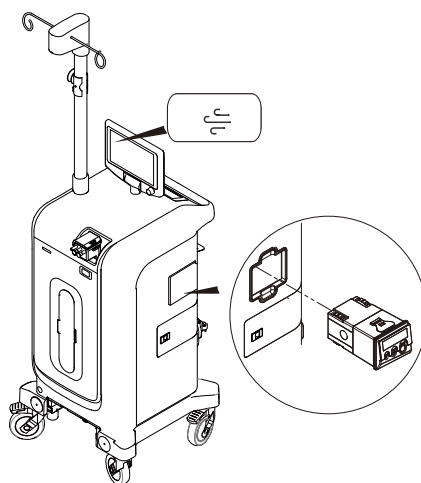

Figure 21 To Prepare for Smoke Evacuation
1. Install the smoke evacuator tubing to the smoke evacuator filter (Figure 21).